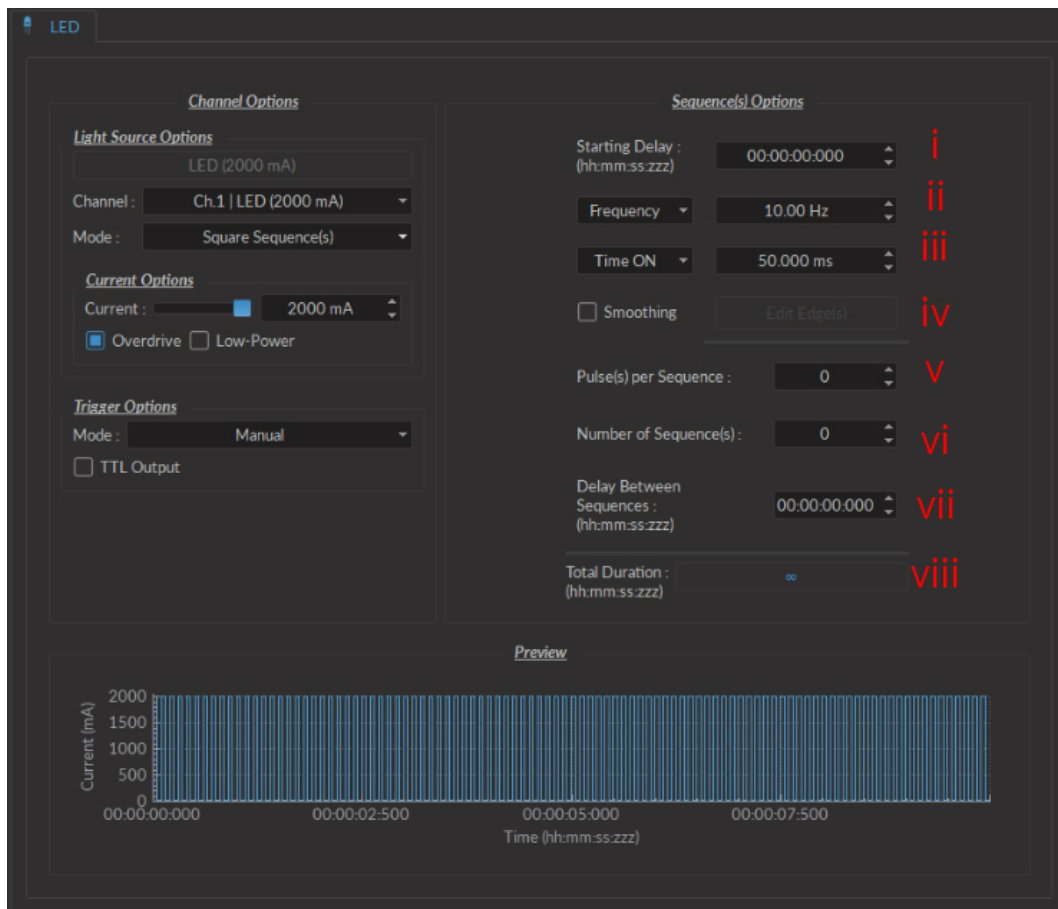

Figure 4.6: Light Source Channel Configuration Window, square sequence options
- i. The **Starting Delay** (Fig. 4.6) sets the delay (in hh:mm:ss:zzz format) before the first pulse.
- ii. The **Frequency/Period** (Fig. 4.6) sets the frequency (in Hz) or period (in ms) for the pulse sequence. For example, a signal at 10 Hz (frequency) will output one pulse every 100 ms (period), whereas a pulse sequence at 0.5 Hz (frequency) will output one pulse every 2000 ms (period).
- iii. The **Time ON/Duty Cycle** (Fig. 4.6) sets the time (in ms) or the duty cycle (in %) for each pulse. The **Time ON** must be lower than  $(1/\text{frequency}) + 0.005$  ms, while the **Duty cycle** must be below 100 %. These squares will appear red should an impossible **Frequency/time ON** be selected. Should the **Smoothing** option be selected, this feature becomes inaccessible.
- v. The **Pulses per sequence** (Fig. 4.6) sets the number of pulses per sequence. If it is set to 0, the pulse will be repeated indefinitely.
- vi. The **Number of sequences** (Fig. 4.6) sets the number of times that the sequence will be repeated. If it is set to 0, the sequence will be repeated indefinitely.
- vii. The **Delay between sequences** (Fig. 4.6) sets the delay (in hh:mm:ss:zzz format) between each sequence if the **Number of Sequences** is greater than 1.
- viii. The **Total Duration** (Fig. 4.6) displays the total time of the experiment. The different values can be *Inf* for infinite, a valid time value or *Err* if the **Time ON** value is greater than 1/frequency.
- f) The **Pulses per sequence** (Fig. 4.6) sets the number of pulses per sequence. If it is set to 0, the pulse will be repeated indefinitely.